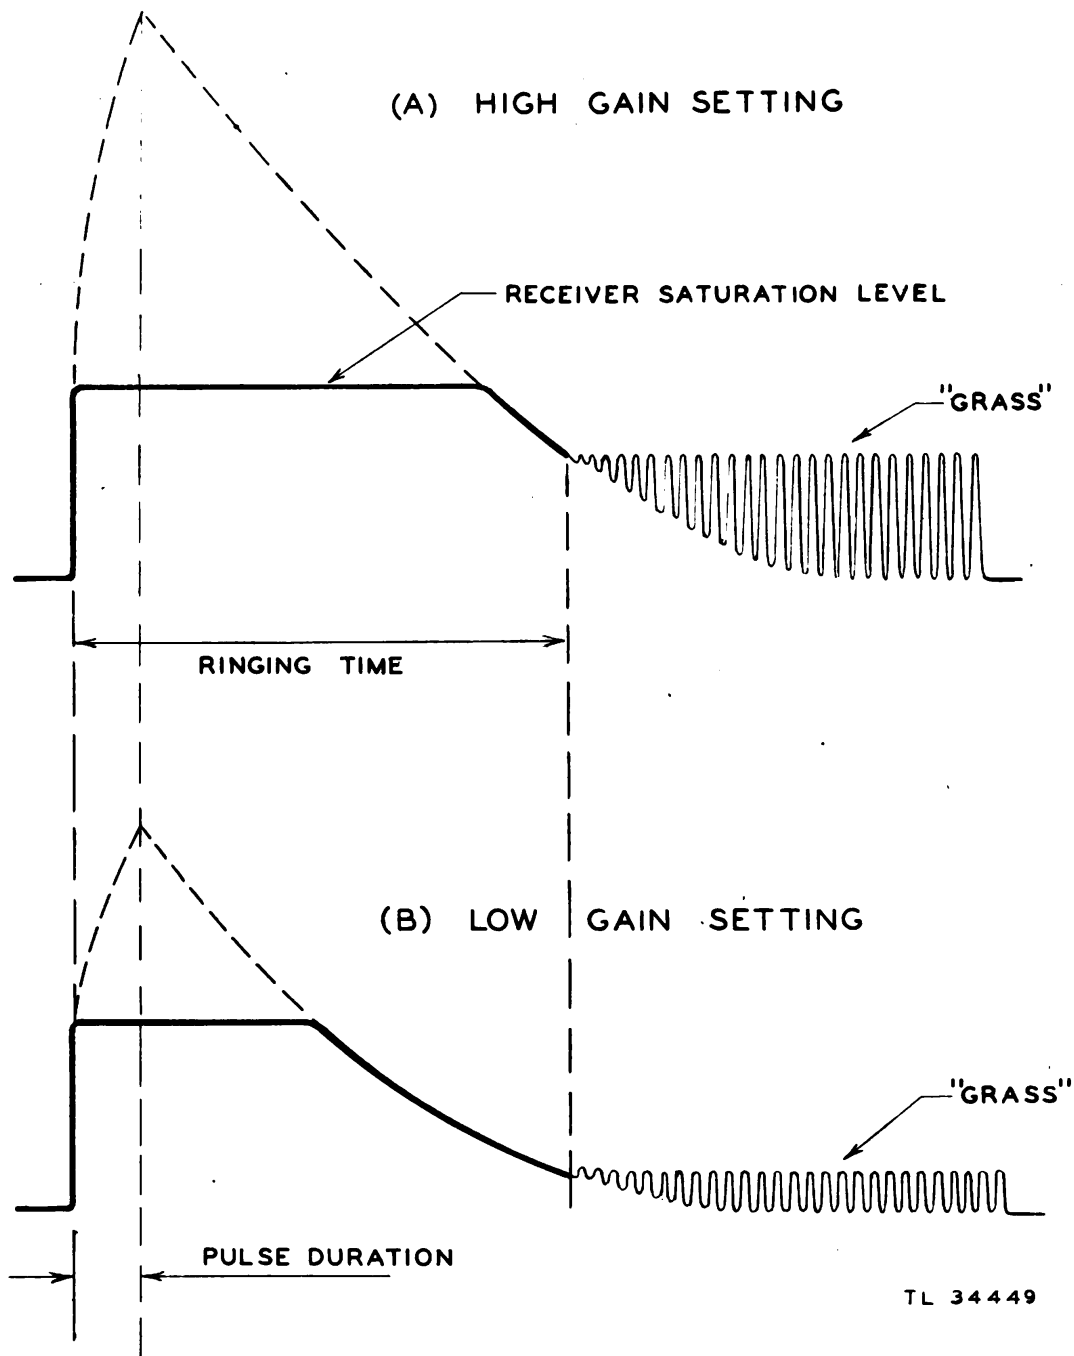

Figure 5. Ringing time measurements.
d. To determine the ringing time, measure the range in miles from the leading edge of the transmitter pulse to the point where the descending curve of the echo box signal begins to join the grass (fig. 5). As long as the normal amount of grass is visible, this measurement is independent of receiver gain.